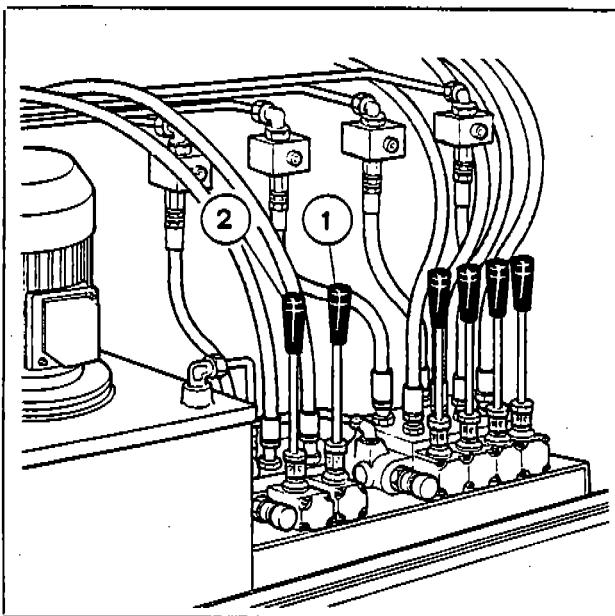

Fig. 14
- Lift the roof, little by little alternately left and right, with the two handles in Fig. 14, 1 and 2.